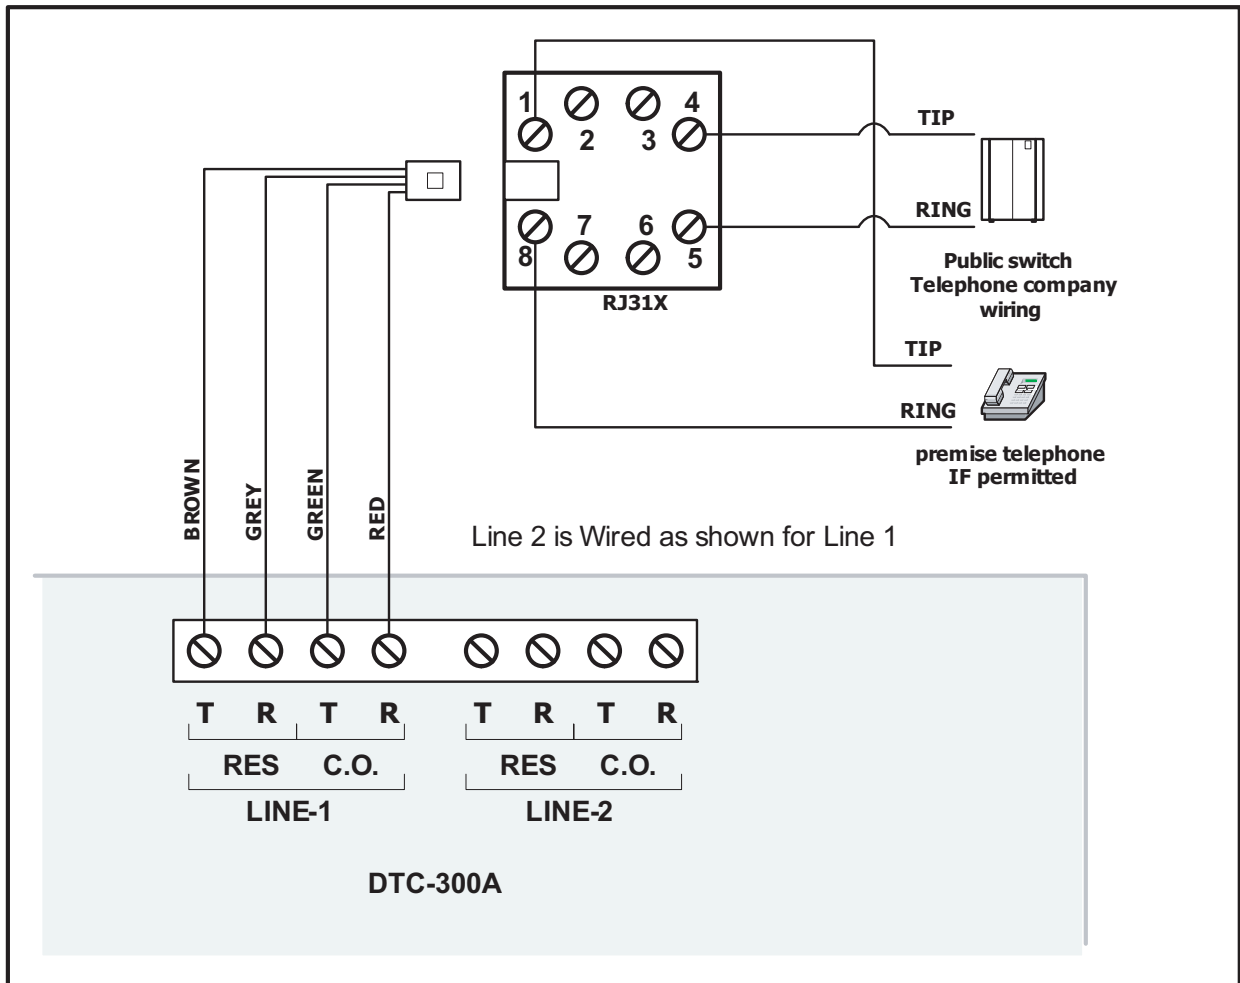

Figure 3 Telephone Line Wiring Diagram
Wire the two telephone lines to RJ31X Connector terminals as shown in Figure 3 below. The DTC-300A telephone line terminals are located on the top left hand corner of the board. For a cellular or wireless service, use the Line 2 interface connection.
2. Check that the telephone lines are connected as shown in Figure 3.
3. Hook up the telephone lines and telephone as shown in Figure 3.